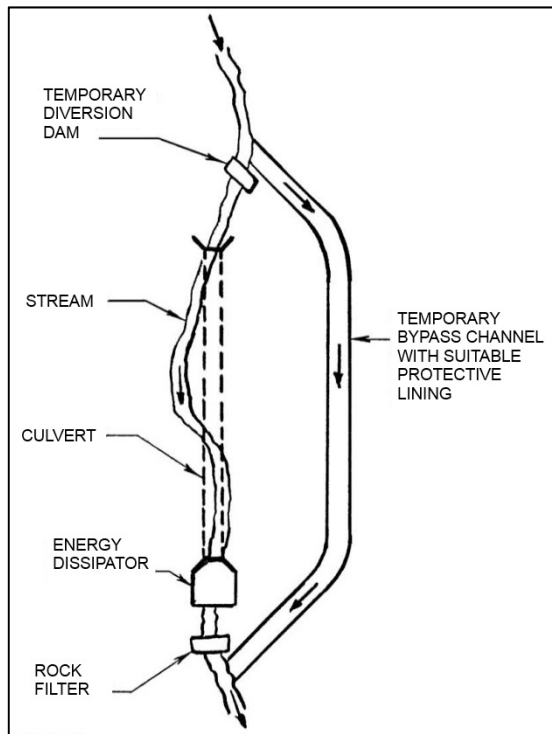

Figure 58: Bypass Channel with Non-Erosive Lining
- The temporary bypass will be constructed as specified in the plans. See **Figure 58** for typical layout.